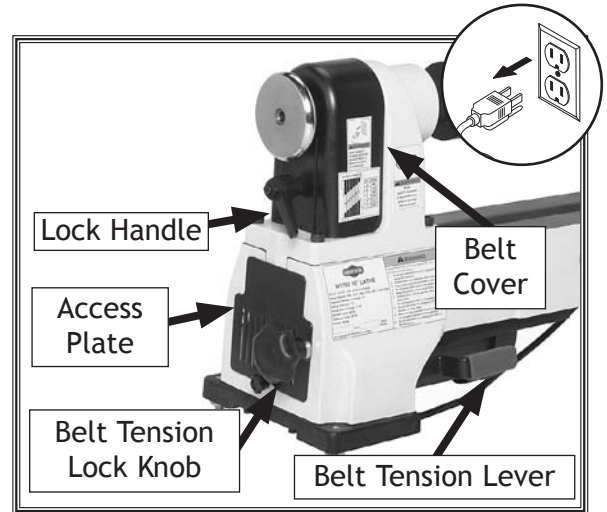

Figure 6. Belt Access.
1. Loosen the lock handle, remove the belt cover, and open the access plate (Figure 6).